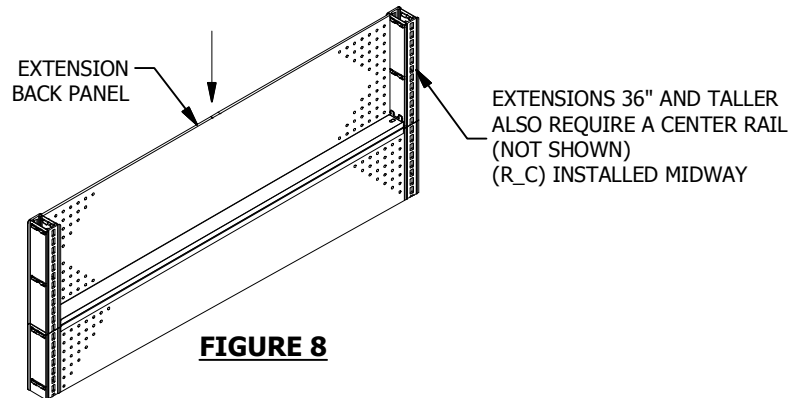

FIGURE 8
STEP 8: INSTALL FIRST EXTENSION BACK PANEL (BE____) BY SLIDING IN FROM TOP OR BOWING IN FROM FRONT. **(FIGURE 8)**